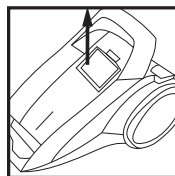

Abb. 6
- Remove the dust bin flask (11), take out the motor filter and clean it (fig. 6), then install the motor filter back to its place.